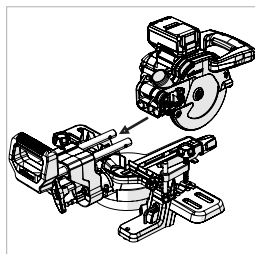

Fig. 13
- Align the cutting head with the two sliding carriage arms. **(Fig. 13)**